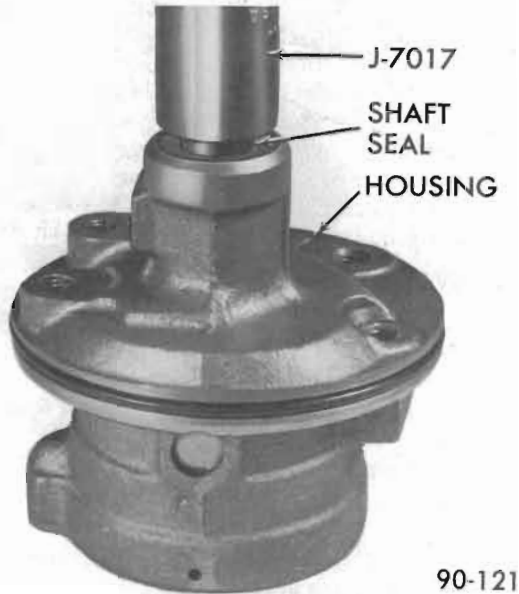

Figure 90-67 Installing Shaft Seal
2. If shaft seal was removed, use installer J-7017 to drive new seal into housing with spring side of seal toward housing. See Figure 90-67. Just bottom seal in housing.